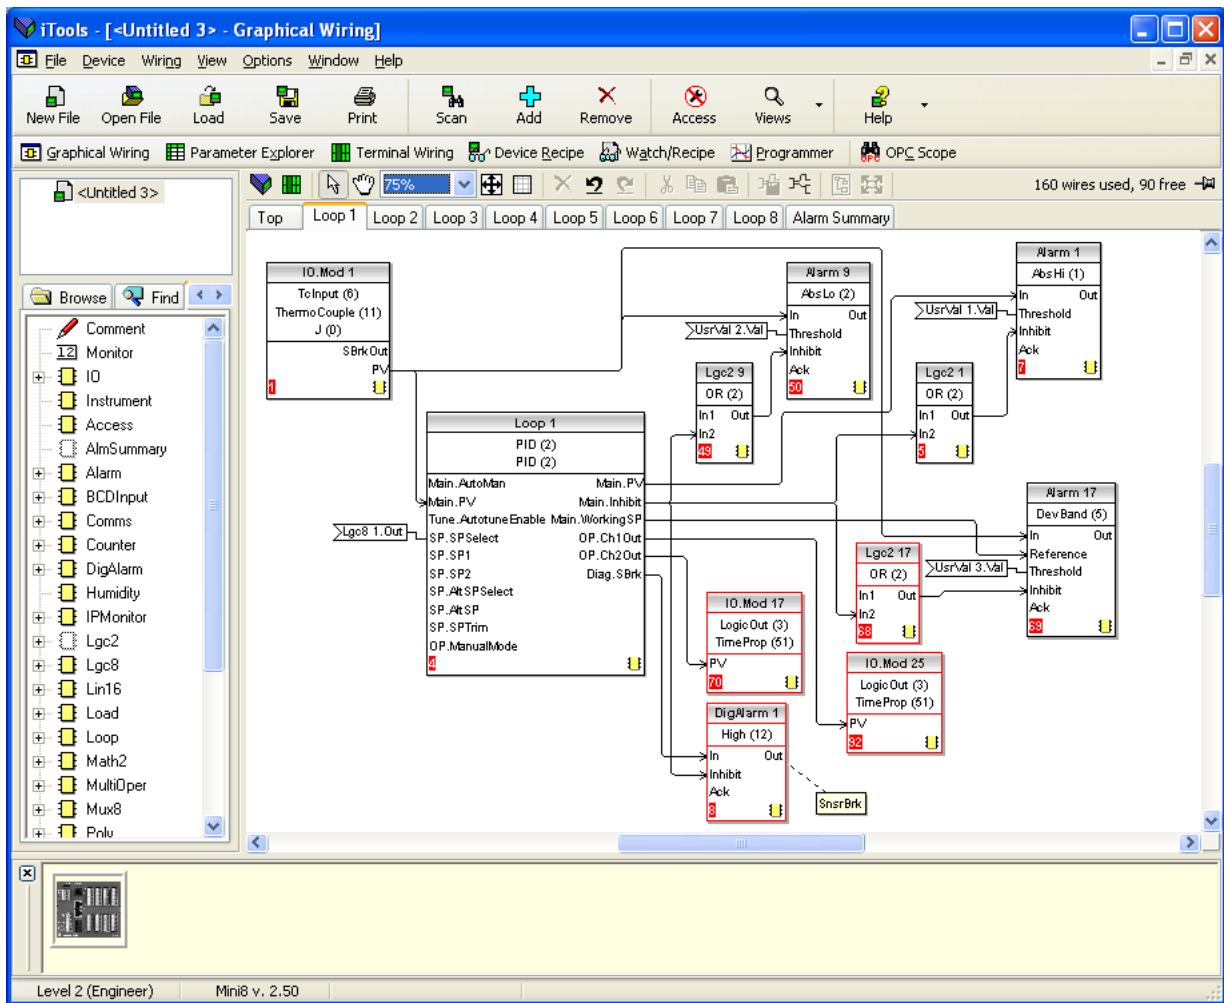

Figure 90 Mini8 Controller Graphical Wiring
2. Configure the Mini8 controller using iTools. In the example below the all eight loops in the Mini8 controller slave have been setup for temperature control as shown for Loop 1 in the iTools Graphical Wiring (Figure 90).